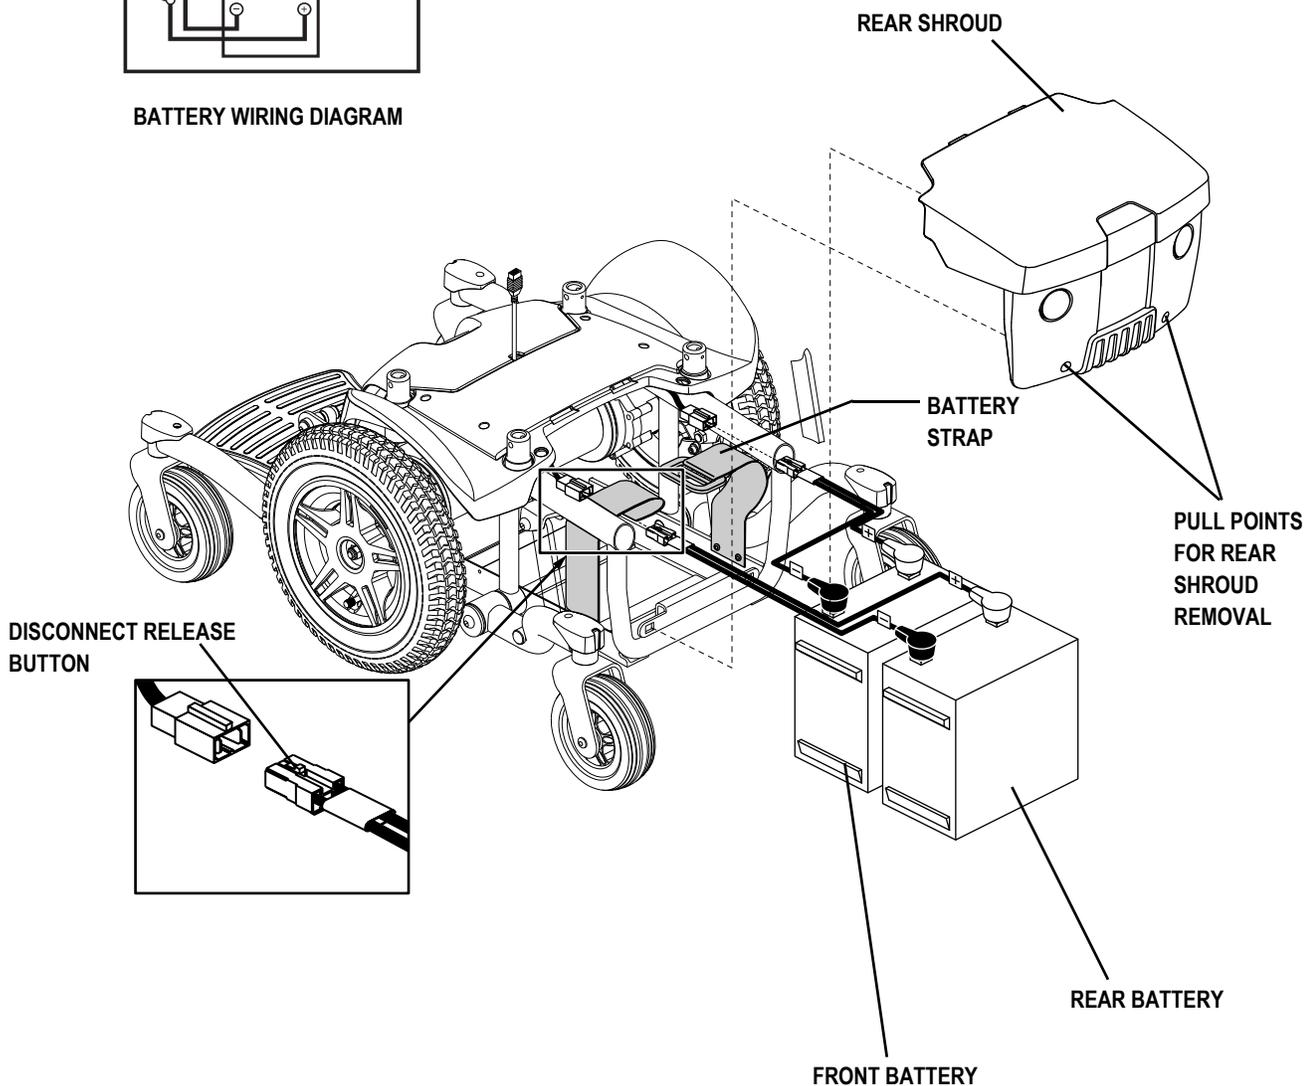

Figure 23. Battery Installation
A battery wiring diagram is printed on a decal located on the front battery tray. See figure 23. See VI. "Batteries and Charging" for correct battery specifications.
3. Pull to remove the rear shroud. See figure 23.
4. Push down on the disconnect release button and disconnect the rear battery harness from the power base. See figure 23.
7. Push down on the disconnect release button and disconnect the front battery harness from the power base. See figure 23.
10. Install a battery harness onto each new battery according to the battery wiring diagram. See figure 23. Make sure that you connect the red wire to the positive (+) battery terminal and the black wire to the negative (-) battery terminal for each battery.